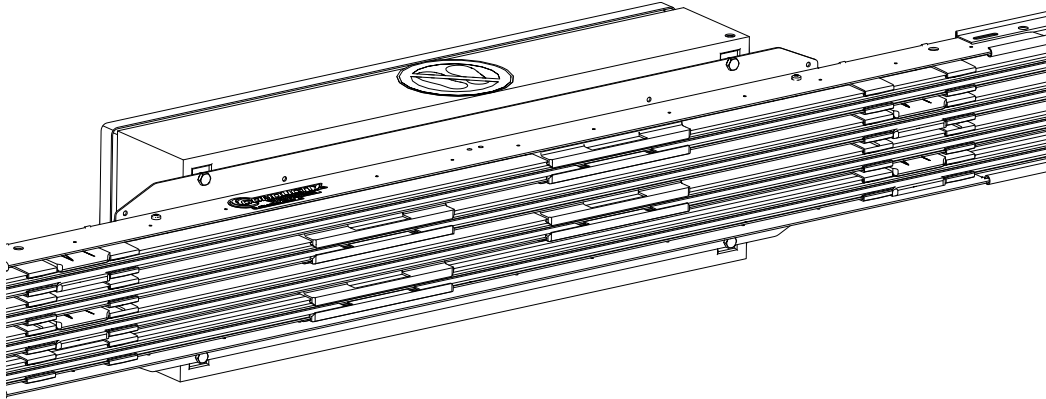

Fig. 32: All conductor rail poles are installed
5. Install all other conductor rail poles in the same way and remove the auxiliary consoles from the ProShell support profile (see Fig. 32).